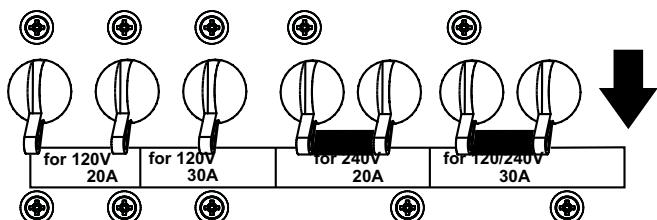

Figure 18. GFCI/AUX. Circuit Breakers (OFF)
3. **NEVER** start the engine with the **GFCI or AUX.** circuit breakers in the **ON** position. Always place these circuit breakers (Figure 18) in the **OFF** position before starting the engine.